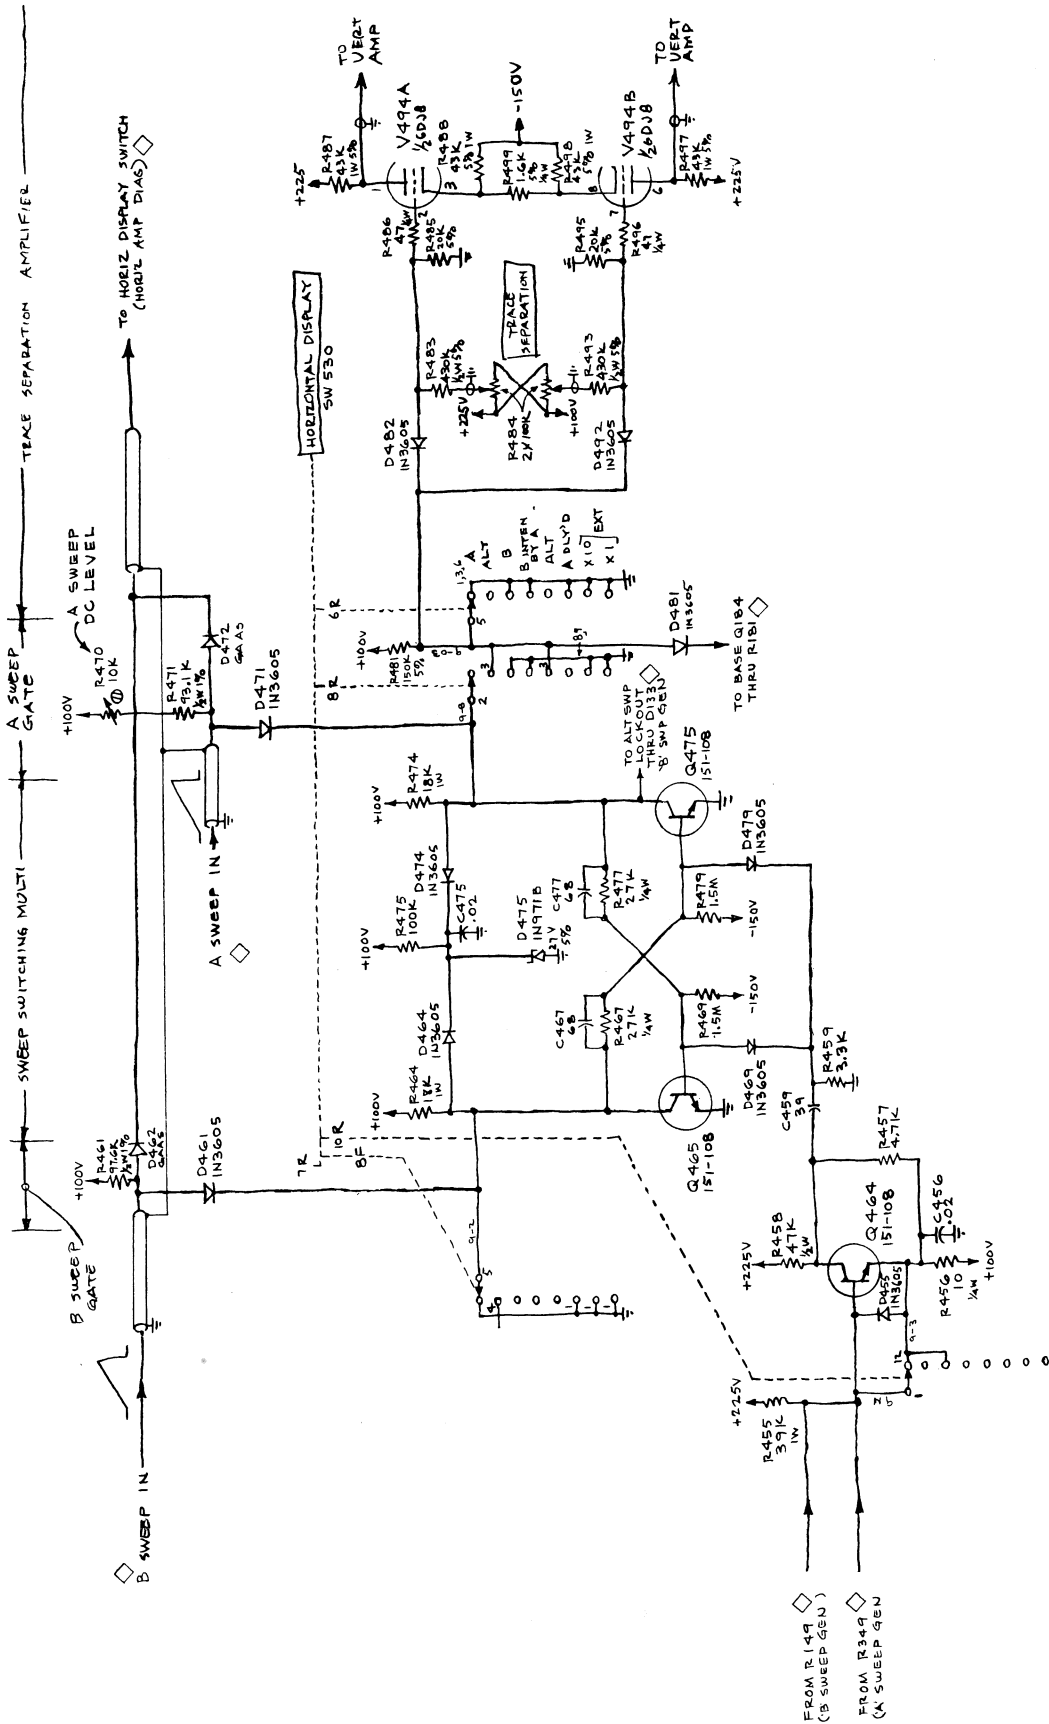

Figure 6-2 Trace Separation
6. Trace Separation: (Figure 6-2)